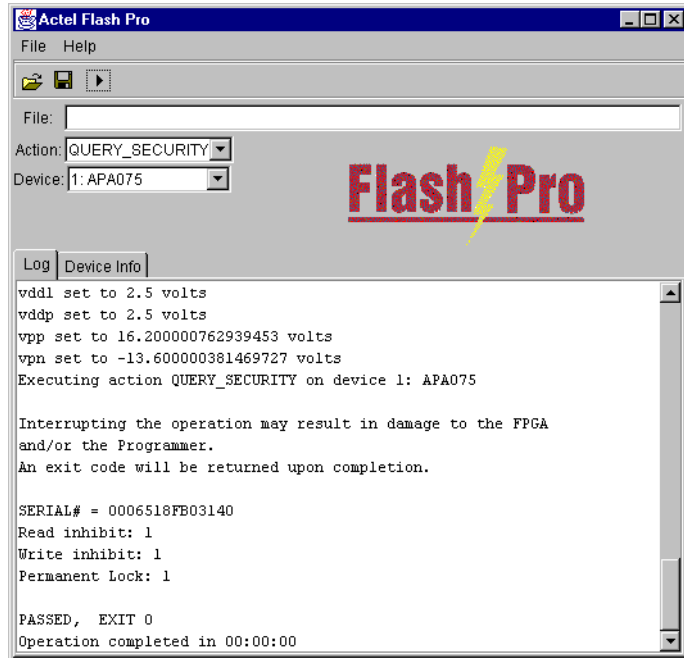

Figure 4-21. Query Results for the Permanently Locked Device
4. **Make your selections and click *Execute* to start programming.** The progress of the programming action is displayed in the Log window. The message 'Exit 0' indicates that the device has successfully been programmed as shown in Figure 4-21.